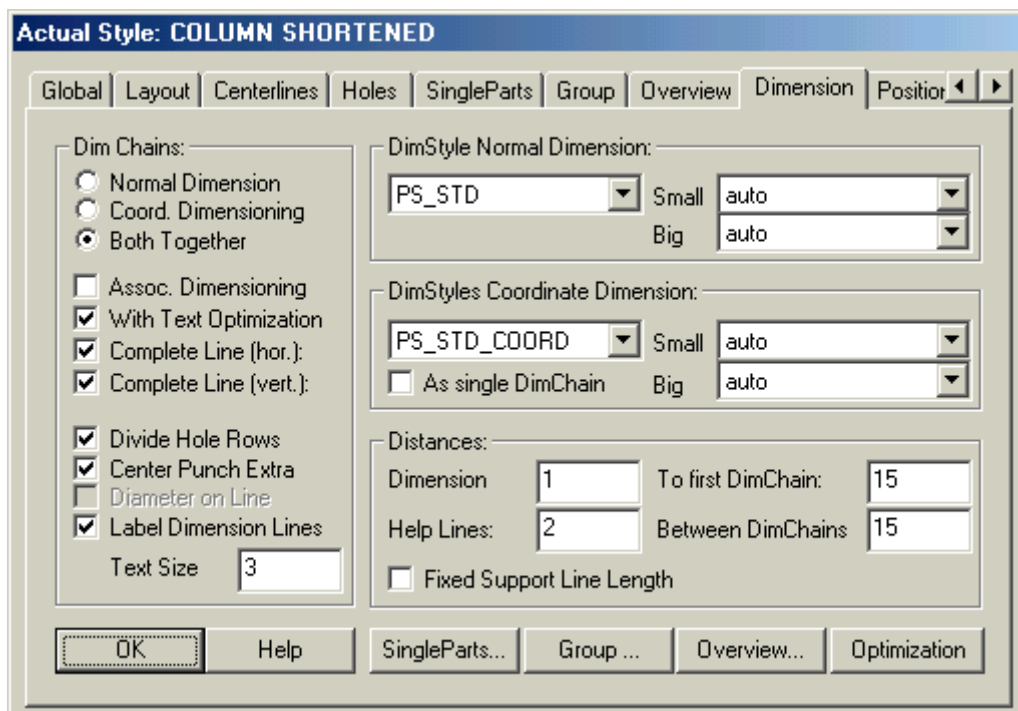

Fig. 19
10. Another TAB down the bottom of Fig. 19 is the “*Overview*” button. This Overview affects the combined drawings such as marking plans and Holding Down Plans i.e. numerous groups joined together and views formed from these groups.